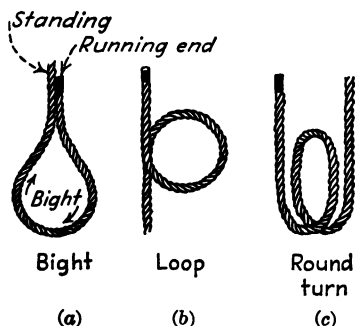

FIG. 27-3. Terms used in knot tying.
**Terms Used in Knot Tying.** All knots and hitches are a combination of the three different kinds of bends: the bight, the loop, and the round turn (see Fig. 27-3).